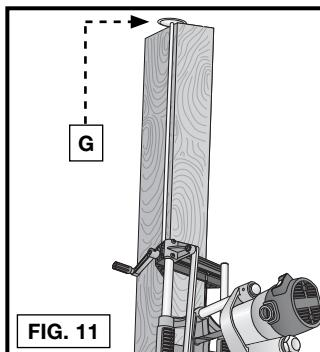
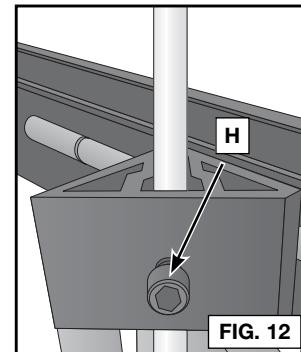

FIG. 11
FIG. 12
If you have a number of doors with the locks at the same height, the height-rod attachment (Fig. 11) can be of great value. After you have determined the correct height, and have the lock mortiser in position on the first door, attach the four rods that compose the height-rod attachment. Insert the rods in the mortiser and place the height rod stop (G) on the top of the rod so that it rests on the top of the door. Lock the height-rod screws (H) Fig. 12. To locate the mortiser on the next door, place the mortiser on the door with the height-rod stop resting on the top of the door and tighten the clamps. This will assure having all locks located in the same position.